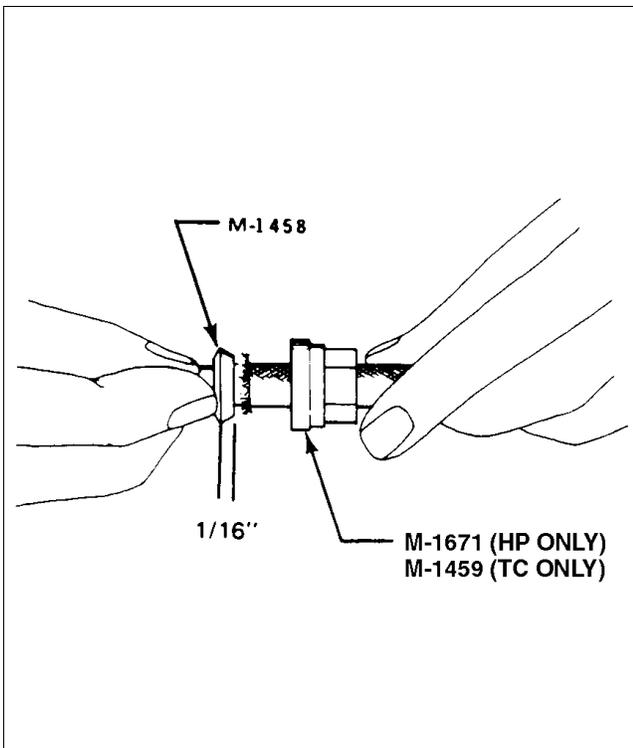

Figure 74-22. Installation of Ferrule
9. On spark plug end of wire install M-1458 male tapered drive ferrule over silicone insulation and under shielding to within 0.0625 inch from flange of ferrule. Make sure that shielding is away from ferrule flange then slide ferrule M-1671 (HP only) /M-1459 (TC only) over the M-1458 drive ferrule until tight. (Refer to Figure 74-22.)